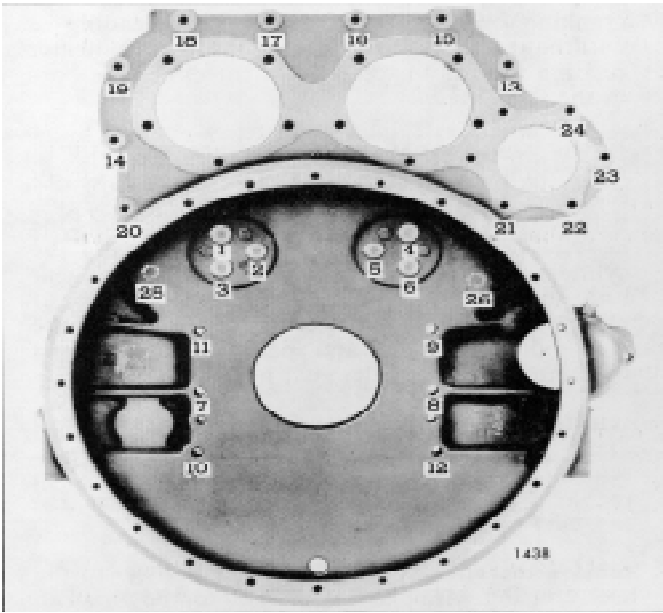

Fig. 4 - flywheel Housing Bolt Tightening Sequence
9. Refer to Fig. 4 for the bolt tightening sequence. Start at number 1 and, using the proper sequence, bring all bolts to within 10-15 lb-ft (14-22 Nm) of their specified torque, drawing the mating parts together evenly.